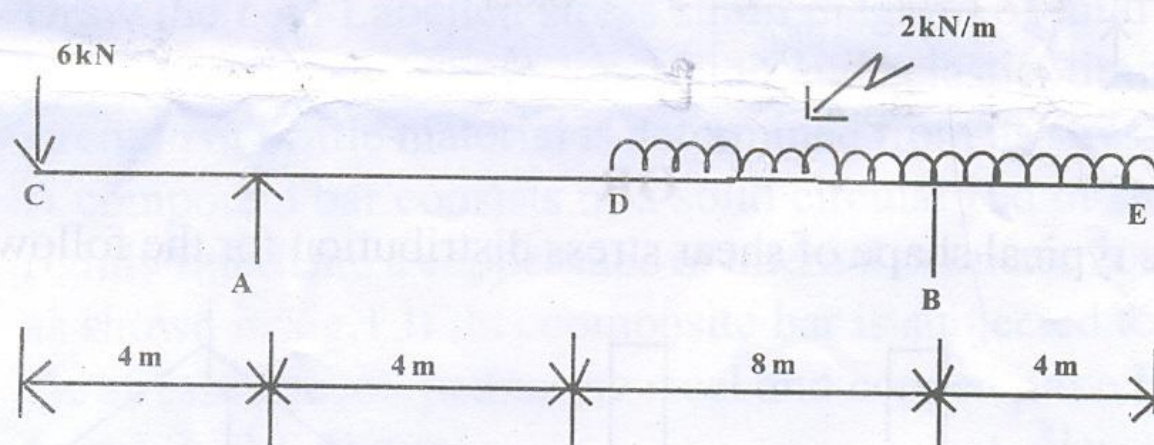

Fig.5
4. Draw the bending moment and shear force distribution diagrams for the beam shown in Fig. 5. Indicate the values of S.F. and B.M. at all critical locations. Also give the value of maximum shear force and maximum +Ve and -Ve bending moments and their locations. Determine the points of contraflexure. (5+5+2+4)